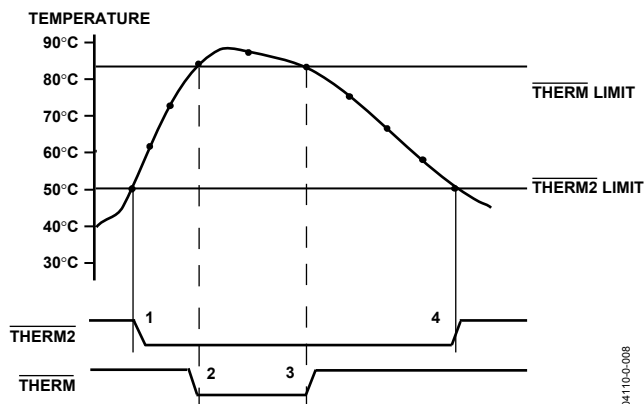

Figure 20. Operation of the $\overline{\text{THERM}}$ and $\overline{\text{THERM2}}$ Interrupts
Figure 20 shows how $\overline{\text{THERM}}$ and $\overline{\text{THERM2}}$ might operate together to implement two methods of cooling the system. In this example, the $\overline{\text{THERM2}}$ limits are set lower than the $\overline{\text{THERM}}$ limits. The $\overline{\text{THERM2}}$ output could be used to turn on a fan. If the temperature continues to rise and exceeds the $\overline{\text{THERM}}$ limits, the $\overline{\text{THERM}}$ output could provide additional cooling by throttling the CPU.
3. The $\overline{\text{THERM}}$ output deasserts (goes high) when the temperature falls to $\overline{\text{THERM}}$ limit minus hysteresis. In Figure 20, there is no hysteresis value shown.